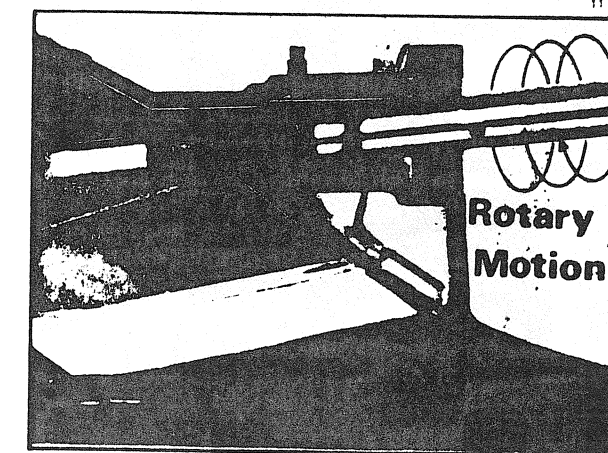

FIGURE 28
- A rotary screw motion of the shaft is also helpful as it allows the lips to adjust themselves around the shaft (fig. 28).